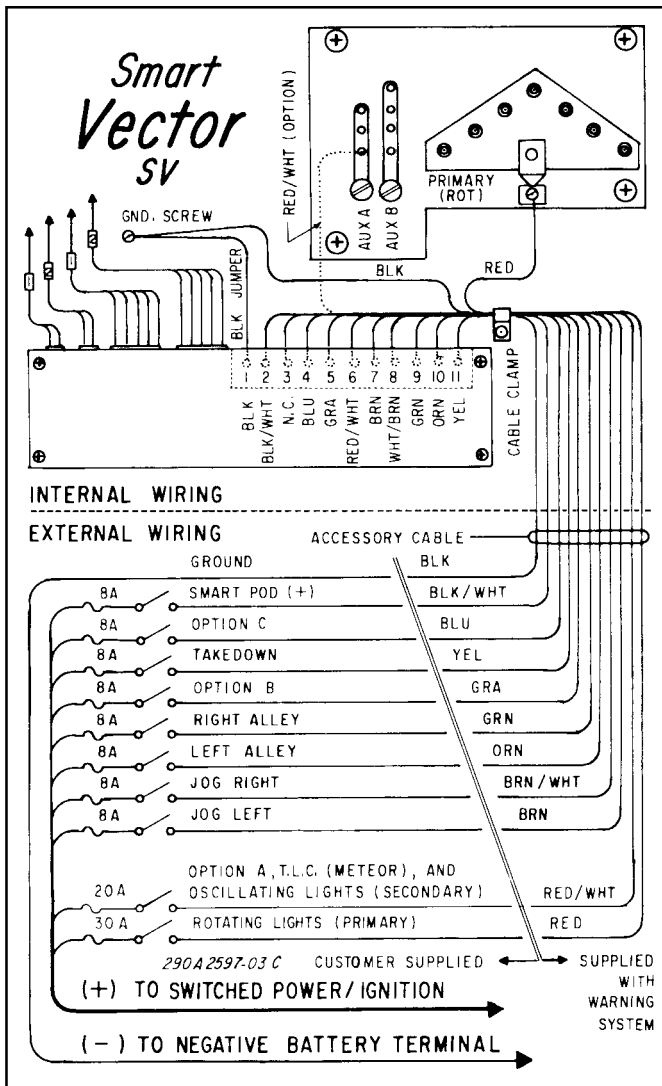

Figure 1.
B. For proper light operation, the light bar control cable must be properly terminated inside the user supplied control head. Using figure 1 as a guide, make the appropriate electrical connections shown in Table 1. Ensure that the lines are adequately fused as shown in figure 1.